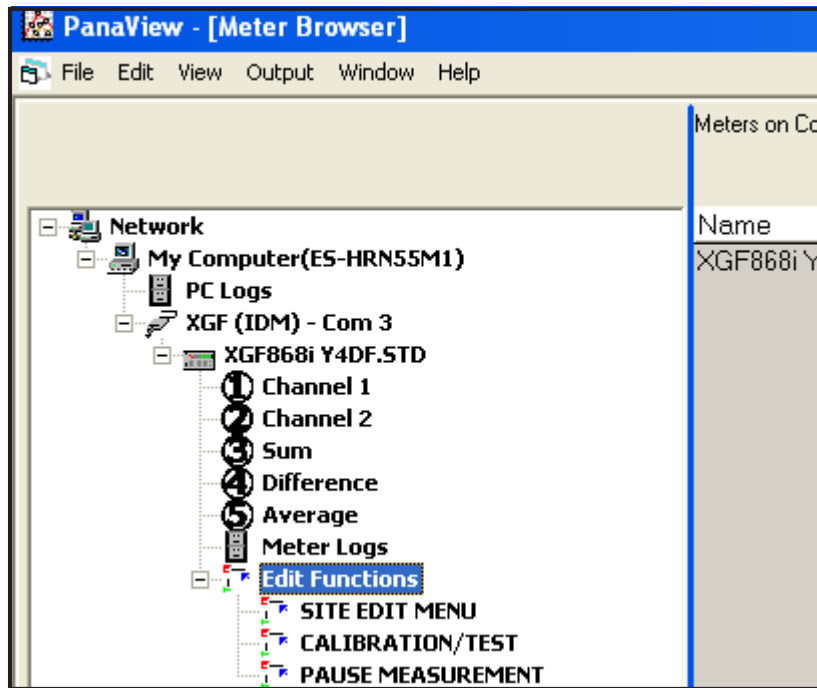

Figure 40: Menus in the *Edit Functions* Option
2. Expand the *Edit Functions* option. The window now appears similar to that shown in Figure 40 on page 89.